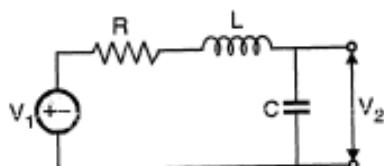

Figure 3
8. a) For the series RLC circuit shown in Fig. 3, find transfer function. Calculate the sensitivities of K, the resonant frequency  $\omega_0$ , the quality factor ( $Q_p$ ) with respect to R, L and C. Comment on the result obtained. 6